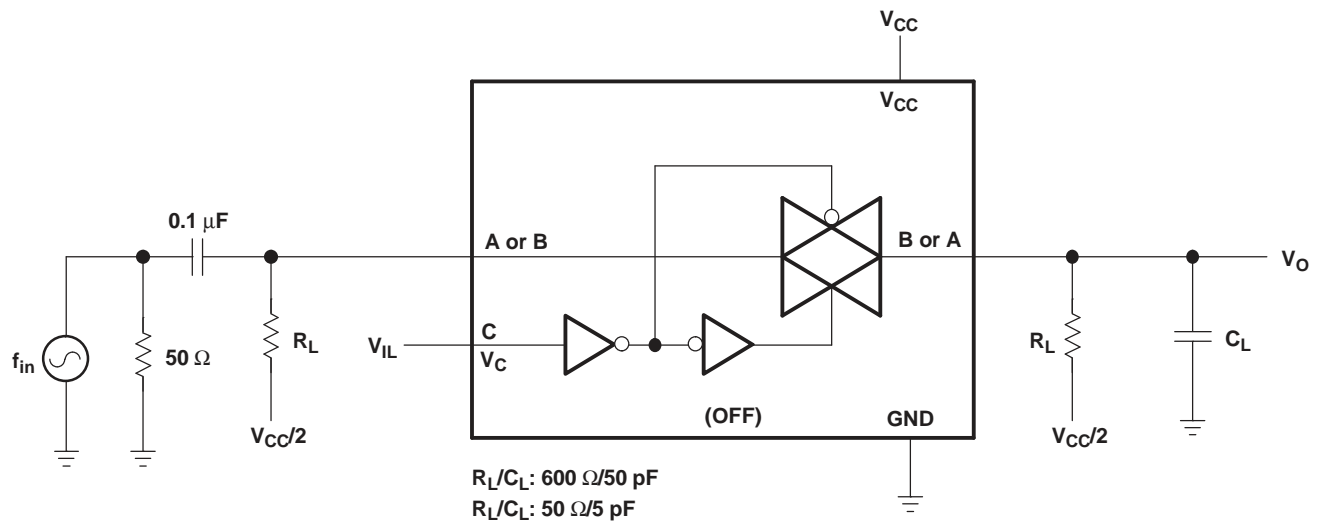

Figure 8. Feedthrough (Switch OFF)
| Feedthrough attenuation (2)(switch OFF) | A or B       | B or A      | $C_L = 50\text{ pF}$ , $R_L = 600\ \Omega$ ,$f_{in} = 1\text{ MHz}$ (sine wave)(see Figure 8)        | 1.65 V   | -58    | dB   |
|  |              |             | $C_L = 5\text{ pF}$ , $R_L = 50\ \Omega$ ,$f_{in} = 1\text{ MHz}$ (sine wave)(see Figure 8)          | 1.65 V   | -42    |      |